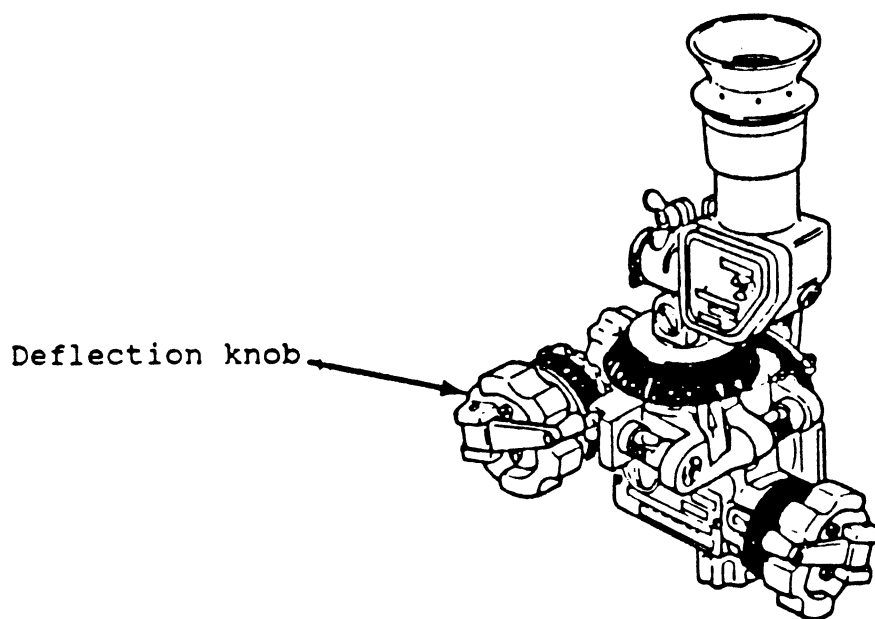

Fig 2-11. Fine deflection knob.
- (1) Turn the fine deflection knob (fig 2-11) until the crossline is aligned with the distant aiming point. Lock the deflection knob.